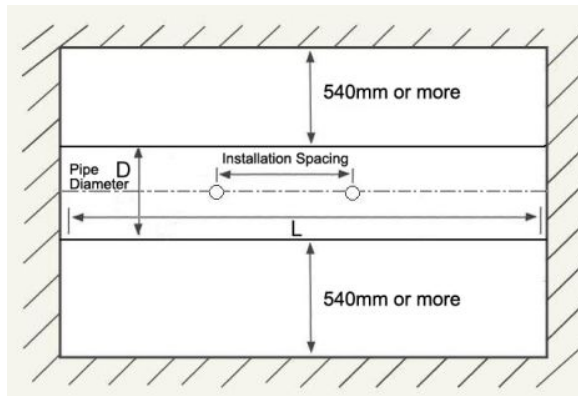

Figure 6
If the Insertion Ultrasonic Flow Meter is installed underground, it requires a certain space for the installation, field calibration and maintenance, etc. Generally speaking, the distance between pipe and the wall of mounting well is at least 540mm. The width of well (W) is larger than  $(D+540\times 2)$ mm(Figure 6); cement pipe need more space and maybe more than  $(D+750\times 2)$ mm; the length of well (L) is larger than  $(D+1000)$ mm.